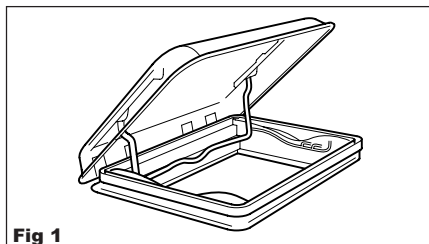
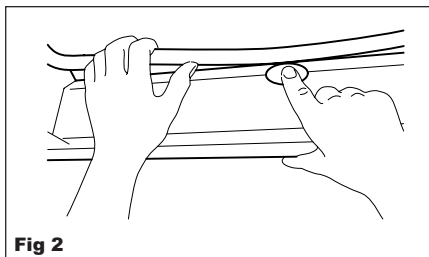

Fig 1
Fig 2
- (i) To open, push the large central button (Fig 2).
The rooflight can be raised to an opening angle, on one side, to a maximum of 70° (Fig 1). To open, pull the operating bar down unlocking the mechanism. Now move the bar forwards (in direction of travel) and the rooflight will open; all the time holding the bar down. As soon as the operating bar is released it will lock into position and the dome will stay at this angle (Fig 2).